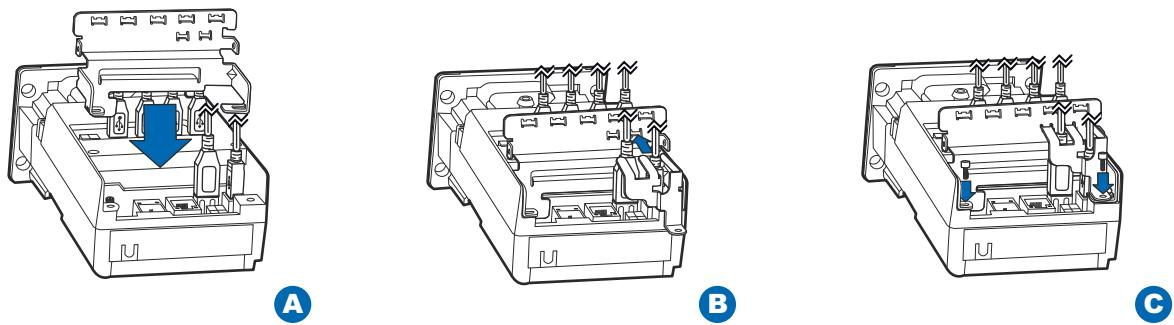

Figure 15 Installing First Two Cable Retainers
- 1 Position the main cable retainer on the lip of the persistent board. See A in Figure 15.
- 2 Place the three-pronged cable retainer over the two USB cables on the persistent board. See B in Figure 15.
- 3 Fasten two hex screws to hold down the two retainers. See C in Figure 15.